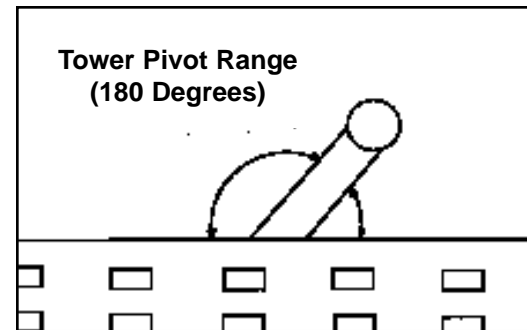

Figure 16
4. Near the desired location, release the tower carriage lever. If the tower carriage pin does not re-engage a mounting hole on the underside of the mainframe, a slight fore or aft movement of the tower may be required until it does. Although this engagement prevents further lateral movement, it still allows the pivoting of the tower to achieve a more critical pulling angle. (See Figure 16.)